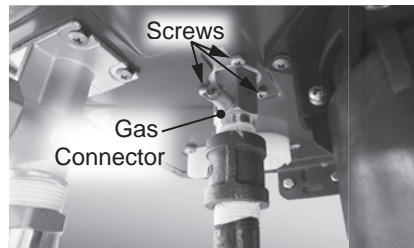

Figure 62 - Gas connector location
- 3 Locate the gas connector on the bottom of the water heater. See Figure 62. Disconnect the gas line to the water heater.
- 12 Locate the three (3) screws securing the gas connector to the base of the base of the cabinet. Use a Phillips screwdriver to remove the screws and place them aside in a safe place for reinstallation. See Figure 62.